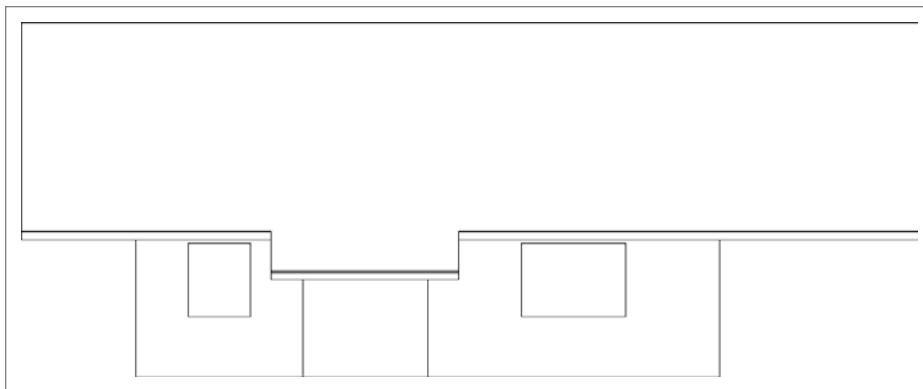

FIGURE 10.15 The completed elevation view
12. Complete the elevation view by using the TRIM command to trim the two vertical lines representing the front and rear outside walls to the roof soffit line. When finished the elevation should resemble Figure 10.15.